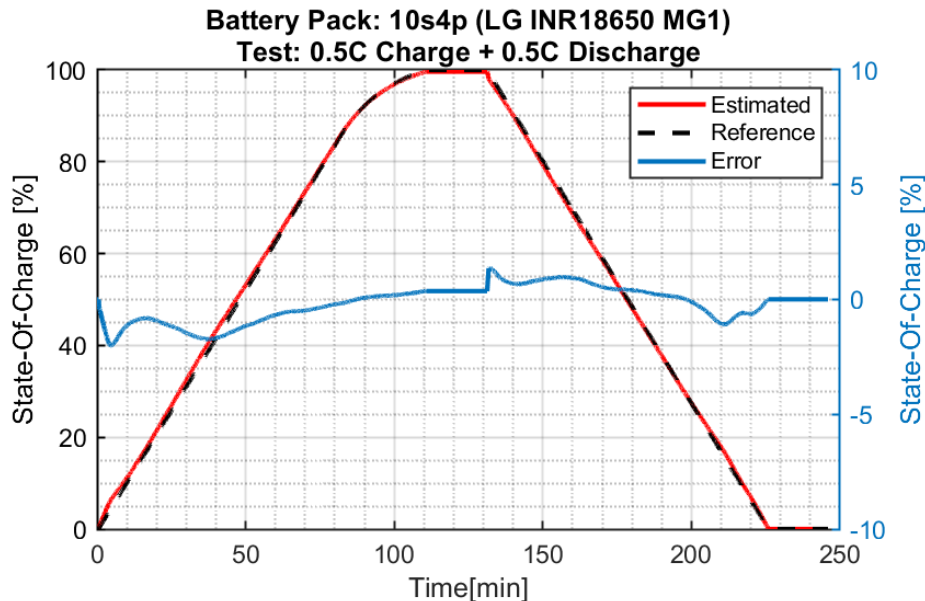

Figure 3: MBM16S-P100 Performance Example
- Accurate Battery Pack State-of-Charge (SoC) Estimate (see Figure 3)